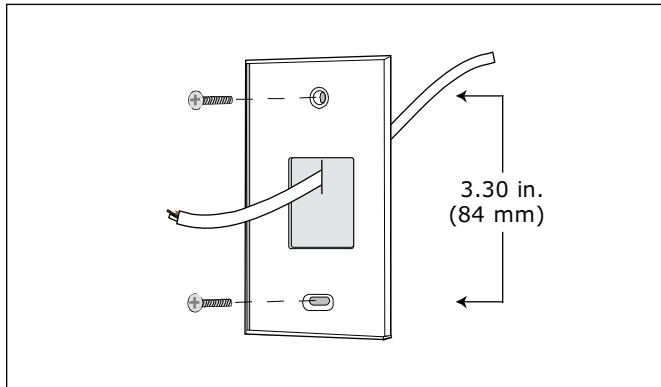

Figure 10
3. Pull the Rnet communication cable through the slit in the insulated backing material. (See Figure 10)